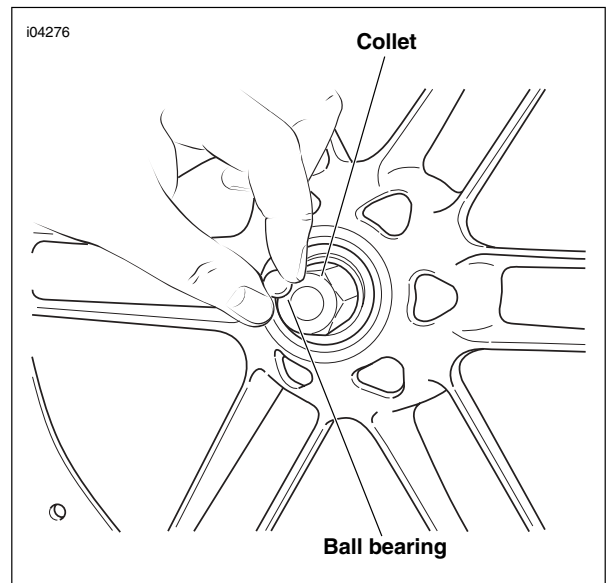

Figure 2-7. Install Collet and Ball Bearing
3. Assemble the short forcing screw (1), nut (2), Nice bearing (3), washer (4) and bridge (5) from the WHEEL BEARING INSTALLER/REMOVER (Part No.HD-44060).
4. See Figure 2-7. Insert the FRONT WHEEL BEARING REMOVER COLLET (Part No. B-43993-7, from kit Part No. B-43993-50) into the wheel bearing until it fully seats against the bearing.